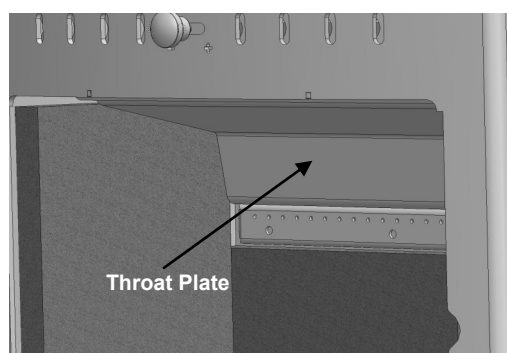

Fig. 7. Liners & Throat Plate Correctly Fitted
- Holding the throat plate (Standard style only) up as high as possible, Insert the side liner panels. (See Fig. 7) these go in front of the rear liners.